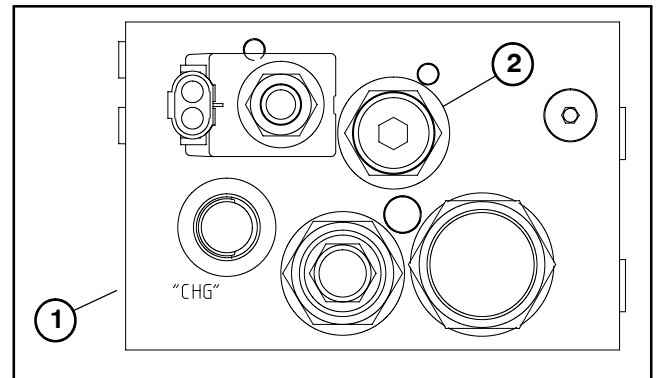

Figure 47
6. Relief valve (RV5) is located on the lower, rear side of the 2WD/4WD control manifold (Fig. 47). Adjustment of the relief valve can be performed as follows: